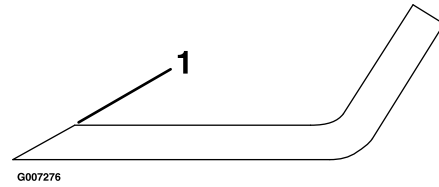

Figure 63
1. Use a file to sharpen the cutting edge at both ends of the blade (Figure 63). Maintain the original